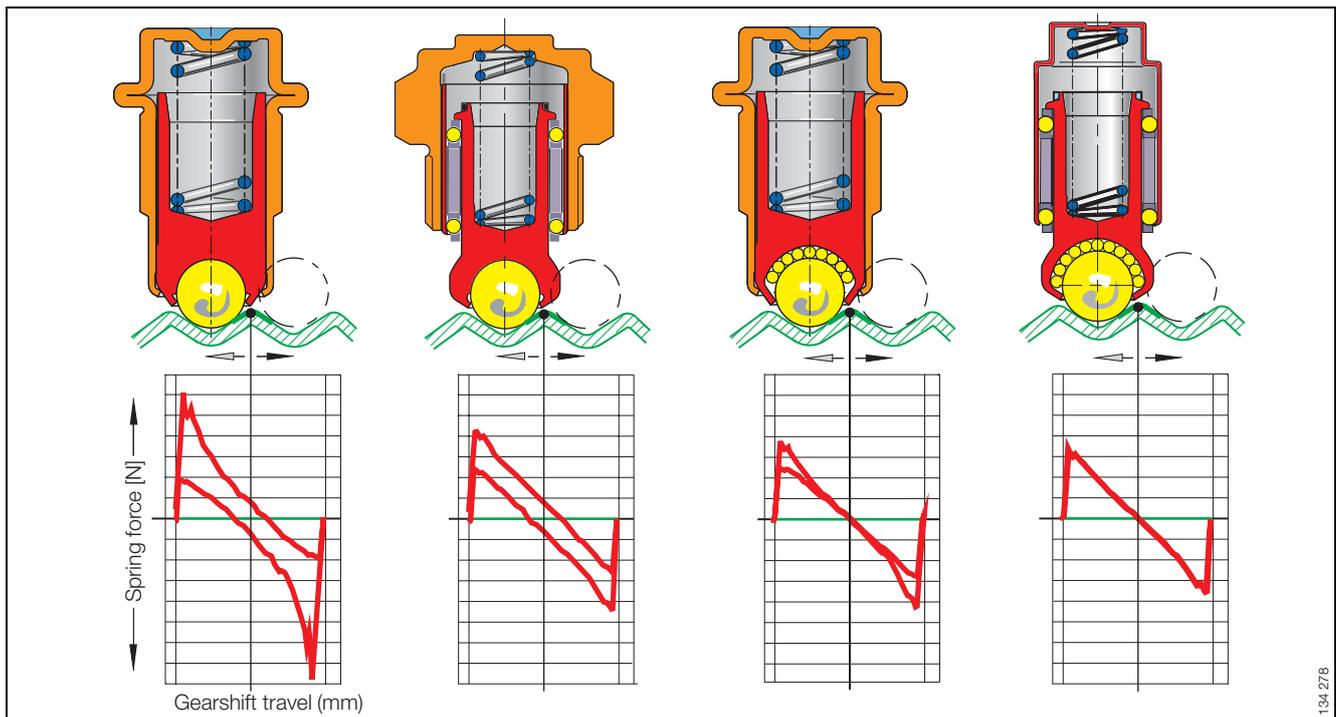

Figure 7 · Functional parts supported by sliding contact and by rolling contact – comparison
**Travel characteristics – Figure 7**